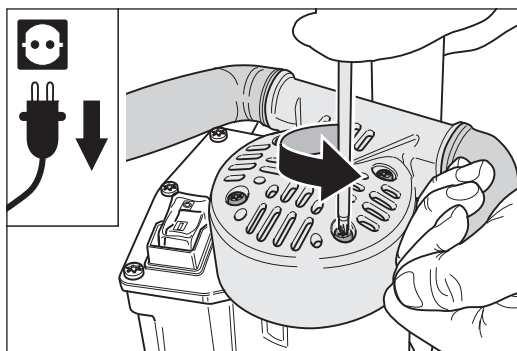
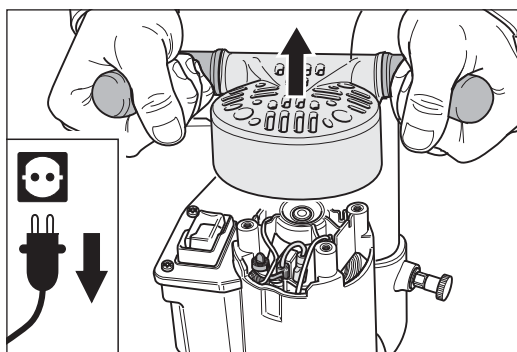

Fig. 49 Remove the four fixing screws of the handle.
Fig. 50 Remove the handle.
- 2 Undo the four fixing screws of the handle (fig. 49) and remove it from the motor housing (fig. 50). **Make sure that no parts fall into the motor when doing so!**